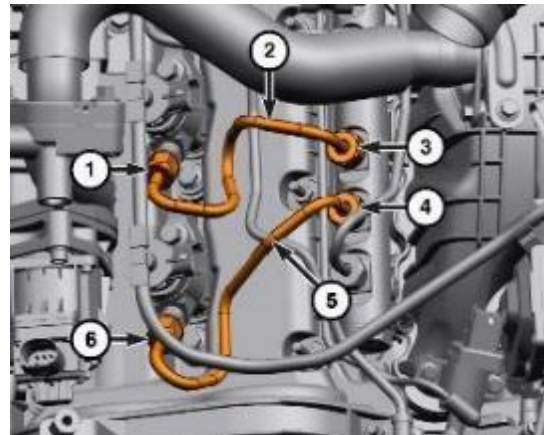

Figure 8 – Right-Side Fuel Tubes Wiring Harness
11. Remove and discard the right-side fuel tubes (5, 2) from fuel injectors No. 1 and 2 (Figure 8).
42. Install the **NEW** right-side fuel tubes (5, 2) to the fuel injectors No. 1 and 2 and tighten the union nuts finger tight (Figure 8).